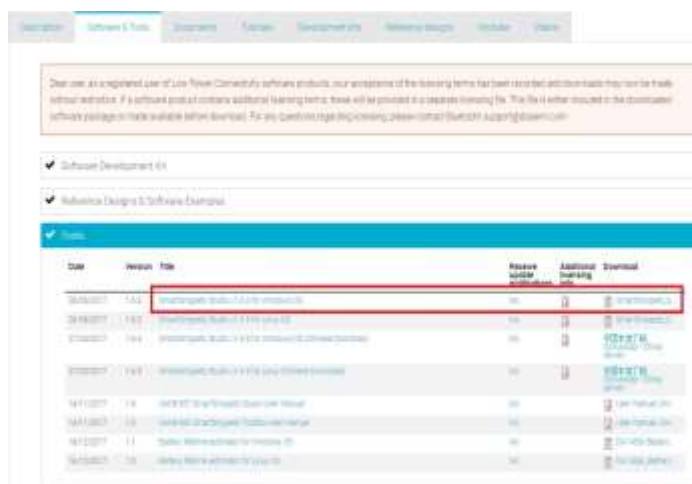

Figure 11: SmartSnippets Studio Install Link
1. Download the latest version of SmartSnippets™ Studio from Software and tools, as shown **Figure 11**.